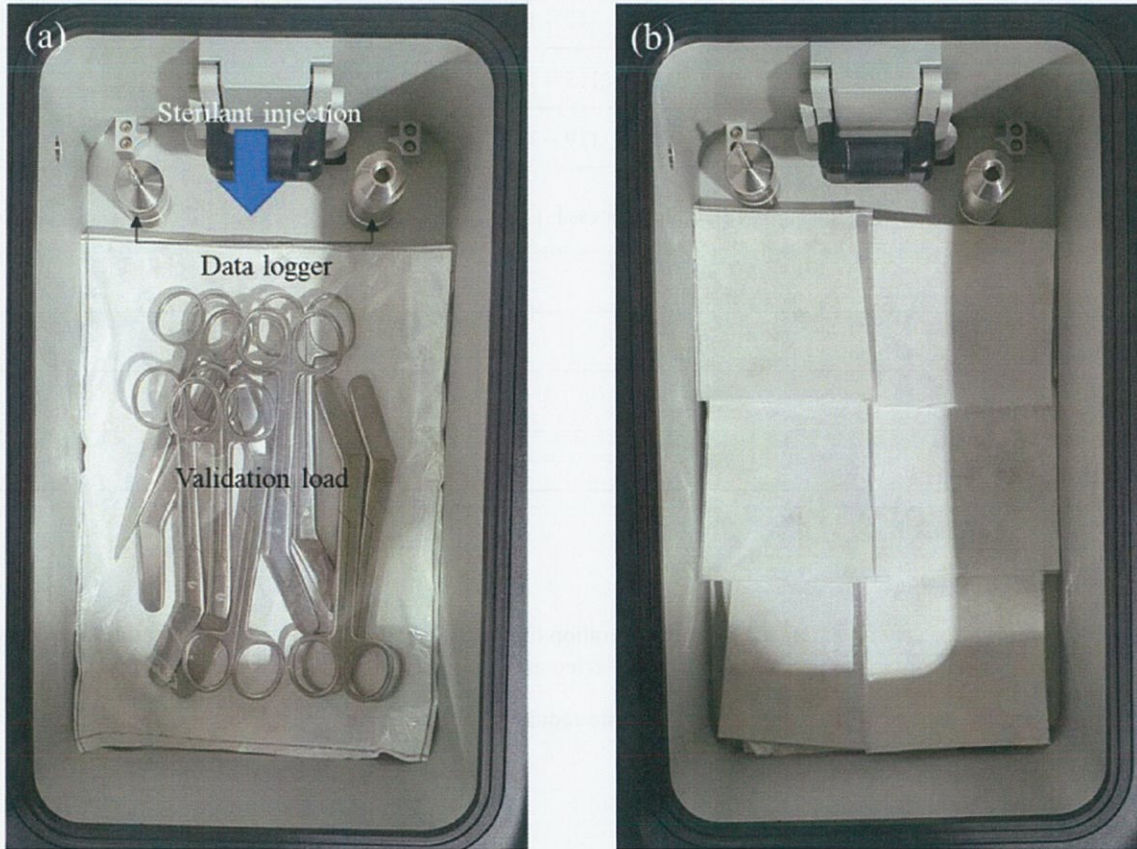

Figure 1.1 (a) The position of validation load and data loggers in the chamber and (b) the test samples were placed on the validation load.
- (1) The sterilization roll was cut into 6 pieces each 10 × 10 (Width × Length, cm) size and sealed as test samples.
- (2) The validation load was placed in the chamber as shown Figure 1.1 (a) of Appendix 1.
- (3) Six sealed test samples were put on the validation load in the chamber.
- (4) The prepared validation load and the test samples were processed with full cycle sterilization of the chamber mode. The temperature and pressure during the sterilization process was measured.
- (5) After sterilization cycle, each test sample was left in the chamber with the chamber lid open for 0, 10, 30, 60, 120 and 300 seconds, and then removed from the chamber and put in each bottle which has 250 ml distilled water.
- (6) The bottle was shaken for 10 seconds to elute the hydrogen peroxide remaining in test sample.
- (7) One hydrogen peroxide test strip was dipped into the water sample in the bottle and shaken gently back and forth for 5 seconds.
- (8) The test strip removed from the water sample and shaken once briskly to remove excess water.
- (9) After 30 seconds, the color of the test strip was match to the color chart, and the hydrogen peroxide concentration was recorded.
- (10) For the negative control, the test strip which was dipped in the distilled water in the bottle without test sample was used.
- (11) The validation test except the negative control test was repeated three times.